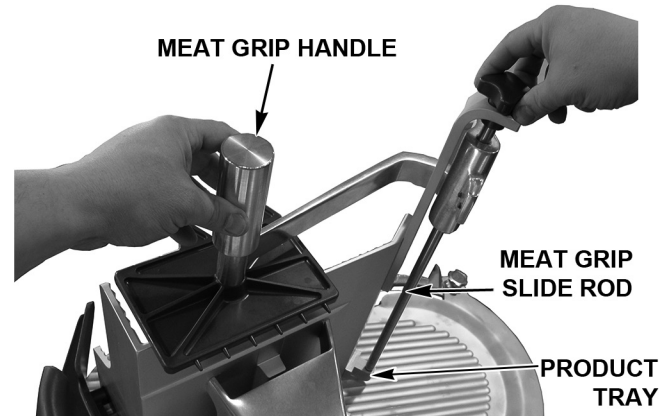

Fig. 16
- Install the Meat Grip Assembly on the Product Tray (Fig. 16) by sliding the Meat Grip Slide Rod into the Meat Grip Handle and Product Tray.
- Tighten the Meat Grip Slide Rod (Fig. 16) into the Product Tray.